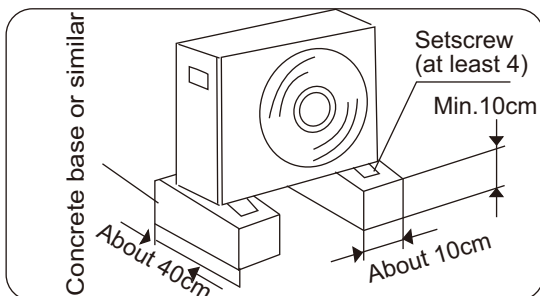

Fig.8.2
- Make a strong base (10X40cm² board made of concrete or similar). The appliance should be placed at least 10 cm above the ground level to avoid being wet or corroded. Otherwise, it may cause damage to the appliance or reduce its life time. (Fig 8.2)